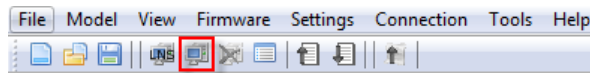

Figure 16: LINX Configurator software, Connect to device
1. Select the IP connection method by clicking on the **Connect to device** button in the tool bar as shown in Figure 16.